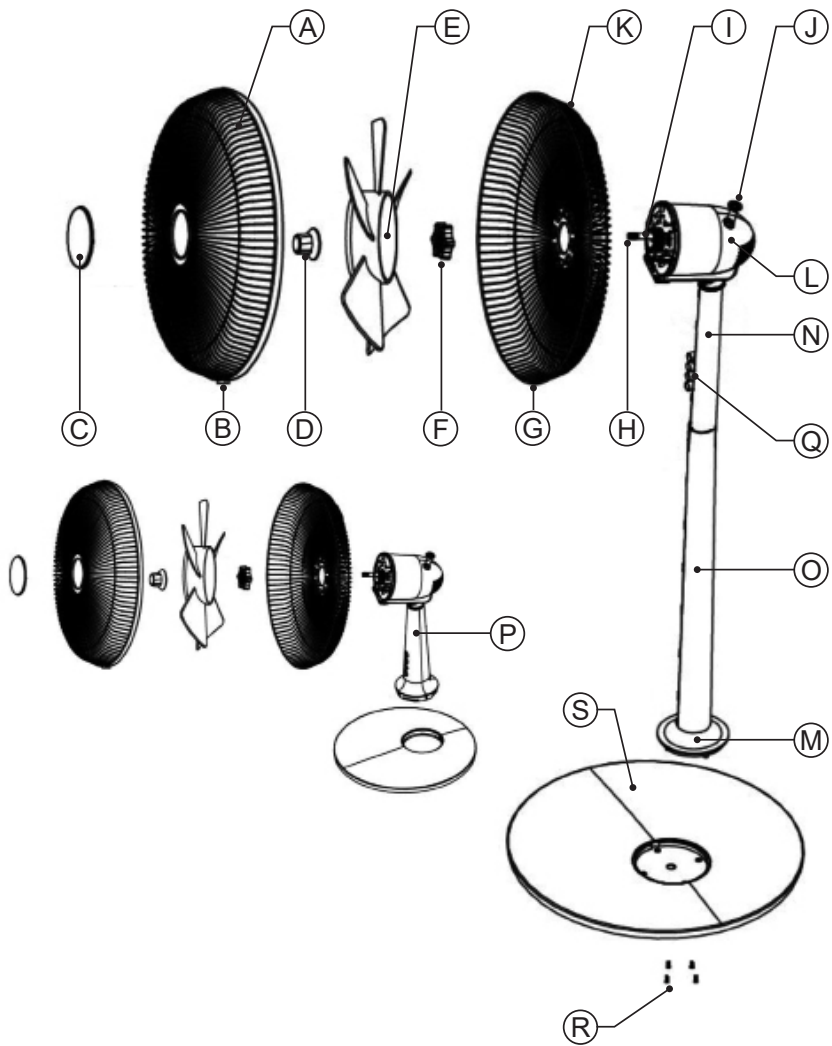

Fig.1
- ◆ Insert the lower stand tube (O) into the base hole (S) and keep the foot (M) of the stand tube alignment with space of the base hole.
- ◆ Then use four screws (R) tighten (Fig.1).